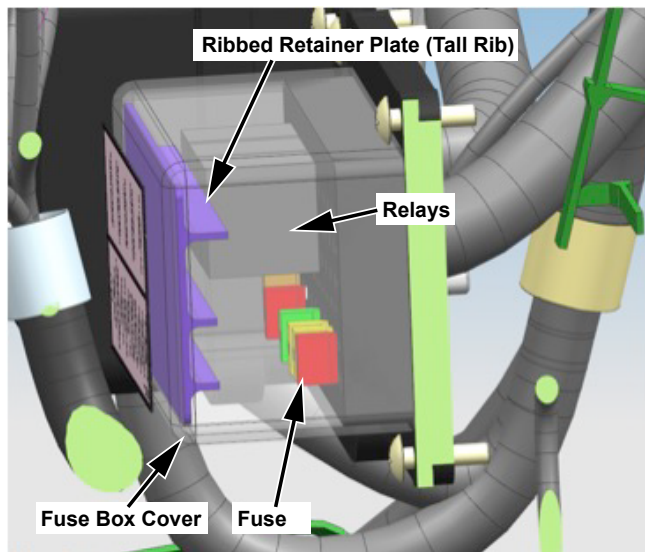

Figure 2
2. Remove the cover from the cab fuse box (see Figure 2).